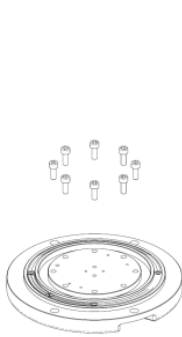

Figure 5-13
- Disassemble M6 hexagon socket head cap screws on the upper cover and pressing plate of the prism (see Figures 5-13 and 5-14).